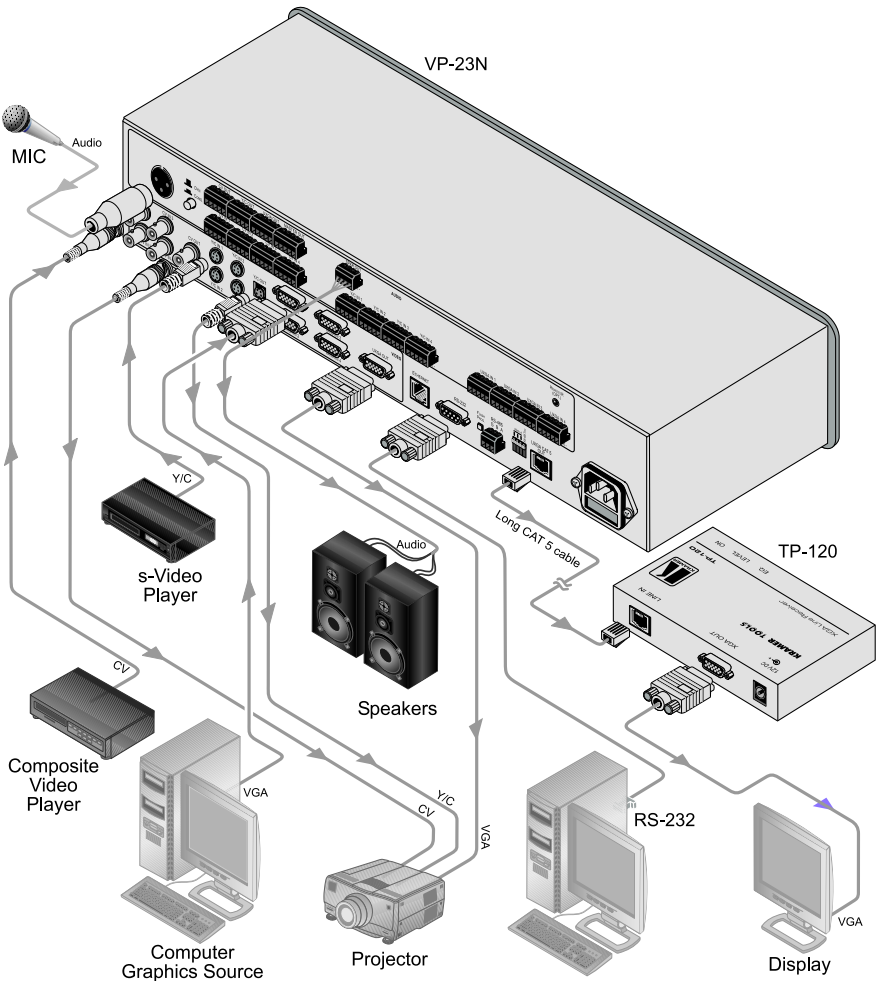

Figure 4: Connecting the VP-23N Presentation Switcher
In Figure 4, the audio connections are not shown, except for the microphone and speakers connections.
To connect2 the **VP-23N**, as illustrated in Figure 4, do the following3:
3. Connect the appropriate balanced audio sources and acceptors (not shown in Figure 4).
4. Connect the MASTER OUT terminal block connector, if required (not shown in Figure 4; see section 7.3).